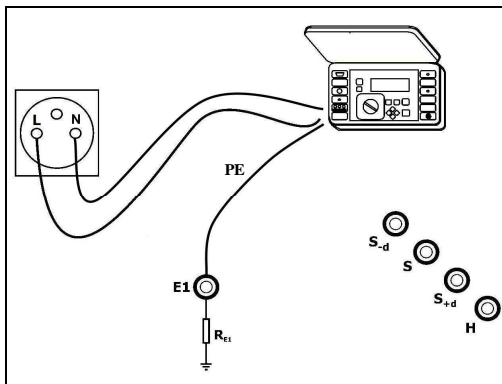

Figure 13. Connection of the meter.
- connect meter of the short circuit loop impedance in accordance with Figure 13,